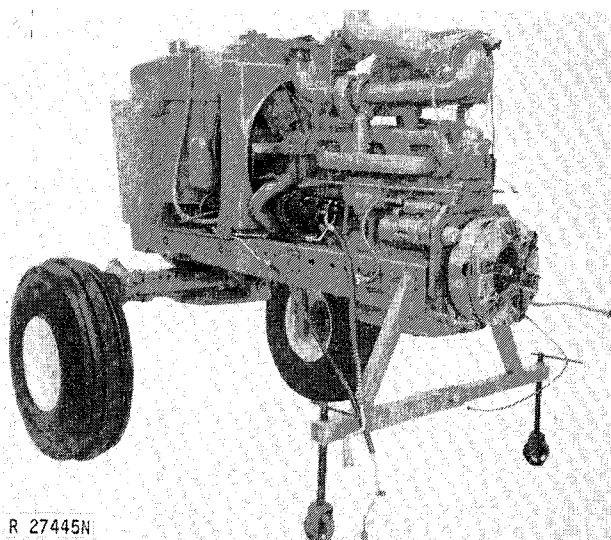

Fig. 34-Engine Separated From Clutch Housing
37. Separate engine from clutch housing (Fig. 34).